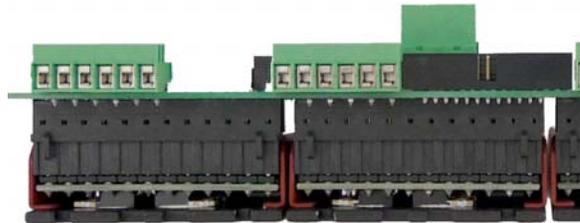

Figure 1 – Sample PMDX-134 and Gecko drive Assembly
10. The resulting assembly should look similar to Figure 1.